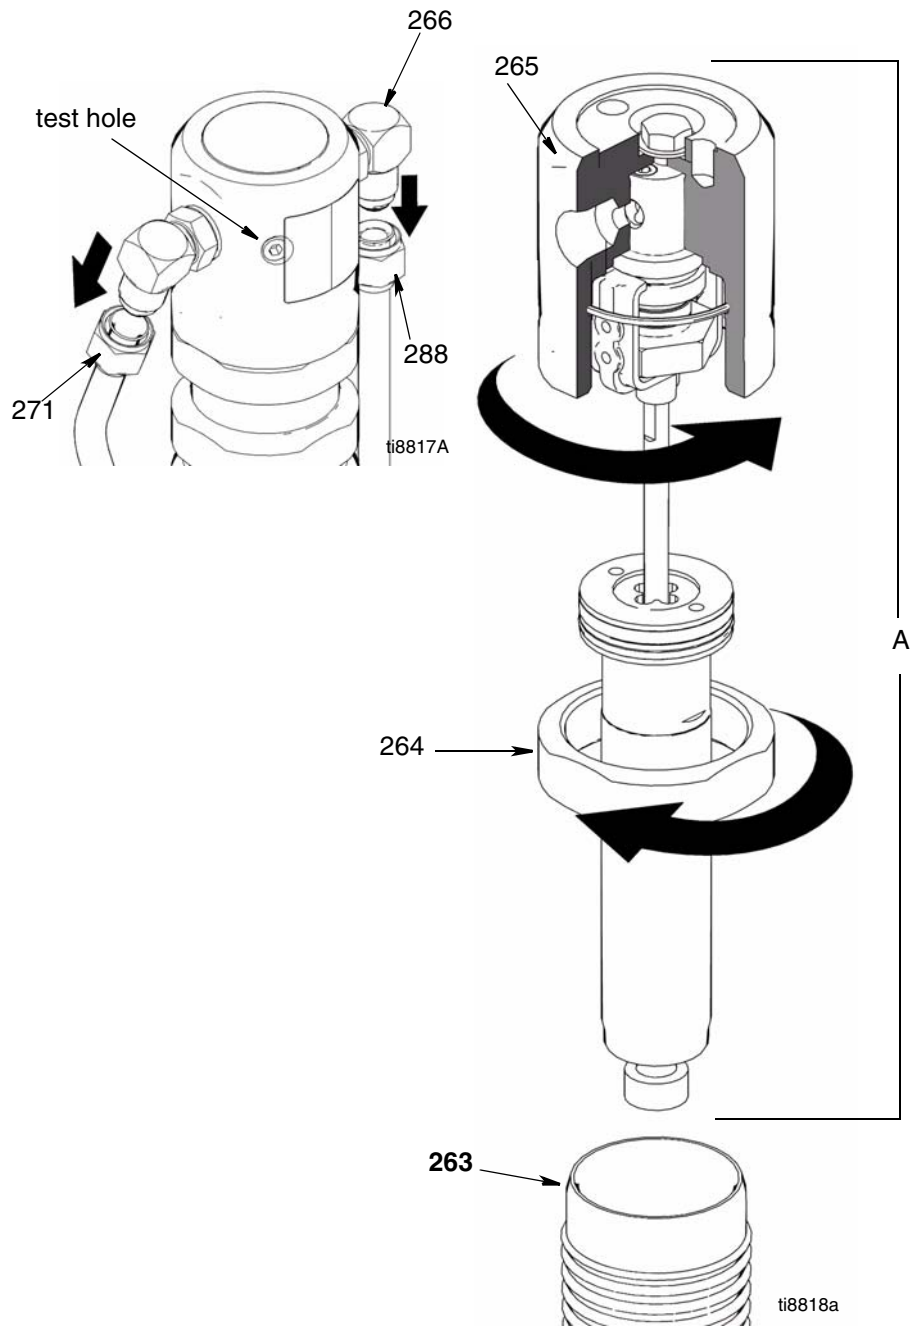

FIG. 5
(Figure 5)
1. Slide piston rod assembly into hydraulic motor cylinder (263).
2. Screw down hydraulic motor cap (265). Unscrew hydraulic motor cap until inlet and outlet align with hydraulic line fittings and test hole in hydraulic motor cap points toward belt guard (117).
3. Torque jam nut (264) against hydraulic motor cap (265) to 150 ft-lb (17 N·m).
4. Fig. 5. Install hydraulic lines (271, 288) to fittings (266) to top left and right side of hydraulic motor; torque to 40 ft-lb (54.2 N·m).